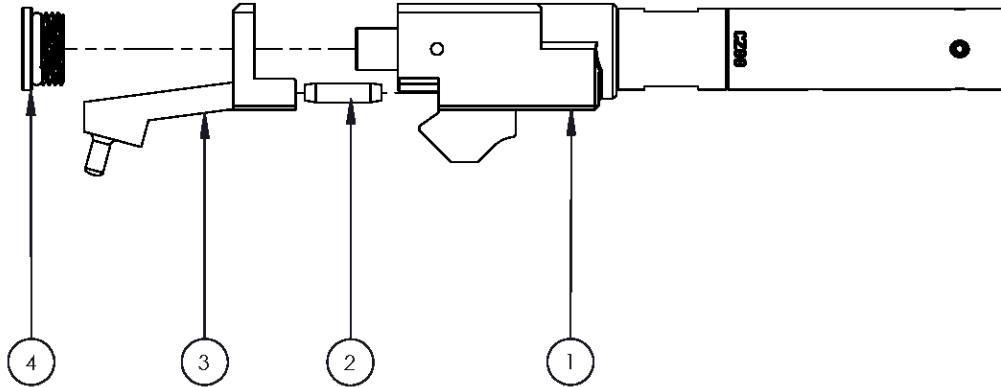
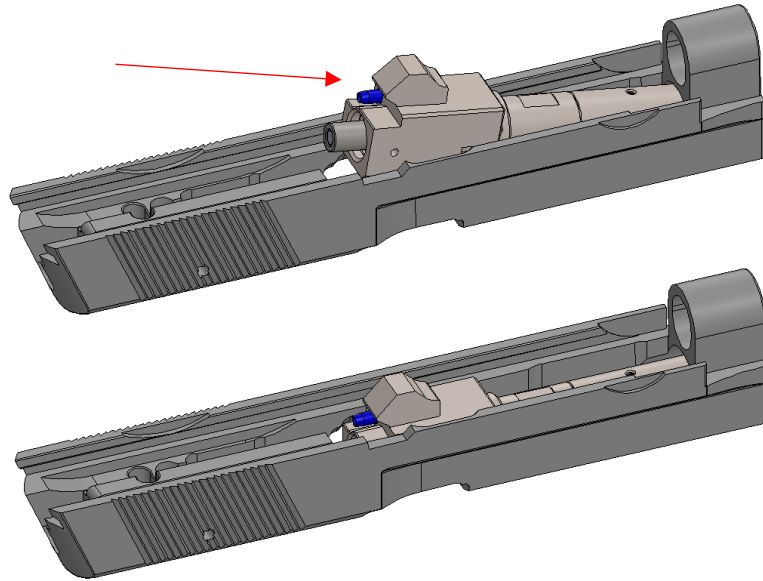
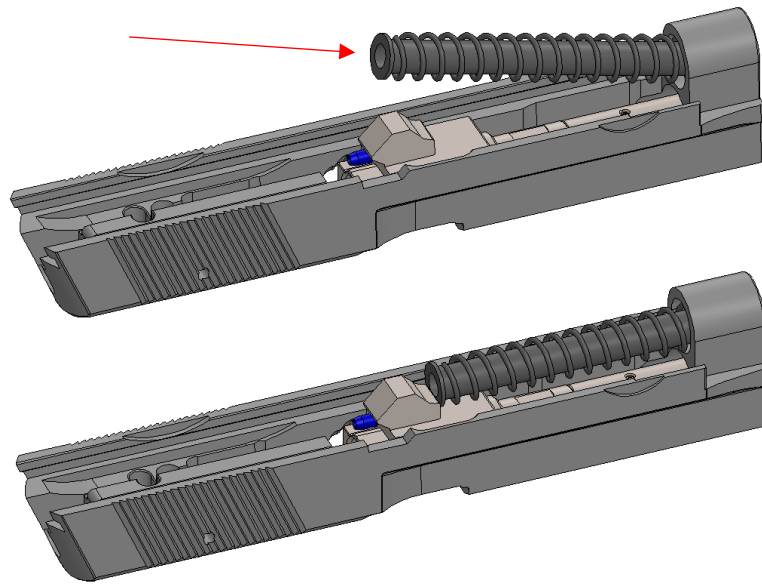
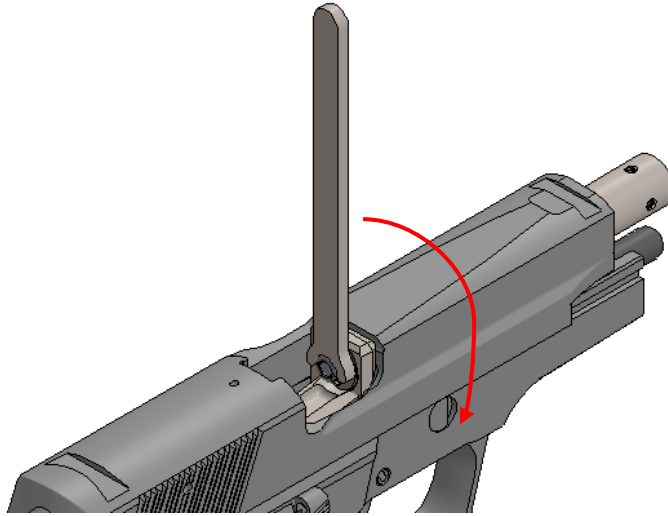

Figure 1: Recoil Kit Assembly
Figure 3: Barrel Assembly Install
Figure 4: Recoil Spring Install
Figure 9: Tailpiece Fastener Install
- Remove the Tailpiece (Figure 1, #3) and Tailpiece Fastener (Figure 1, #4) from the recoil kit as shown in the figure. Use the VirTra Wrench from the V-CZ99 recoil kit to unscrew the Tailpiece Fastener.
- With the bottom of the slide turned up, place the Barrel Assembly (Figure 1: Recoil Kit Assembly #1) into the slide with the barrel lug turned up (Figure 3).
- Insert the factory Recoil Assembly (Figure 1, #1) into the slide guide housing (muzzle end) of the slide. Push the guide rod through the recoil spring, compressing it enough to seat the rear of the guide rod into the assembly notch of the barrel lug (Figure 4).
- Release the slide slightly, exposing the end of the barrel block and insert the Tailpiece (Figure 1, #3) into the ejection port. Press the Tailpiece into the barrel block so that the Air Tube (Figure 1, #2) engages both pieces. This can be done easily by letting the slide close on the Tailpiece after it has been lined up (Figure 7).
- Install the Tailpiece Fastener (Figure 1, #4) and tighten with the VirTra Wrench in the clockwise direction until tight (Figure 9). Be sure the sides of the Tailpiece are well aligned with the Barrel Assembly (Figure 1, #1) to prevent it from turning and sticking out of the ejection port. Even small misalignment can compromise the performance of the recoil kit and shorten the lifespan of the Air Tube (Figure 1, #2).